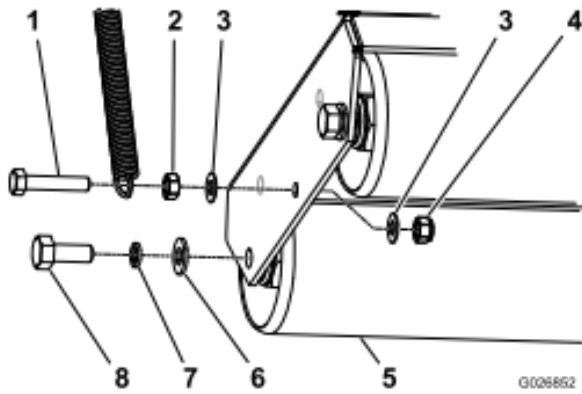

Figure 1
3. Remove the roller cylinders from the steering heads (Figure 1).
4. Install the roller cylinders into the steering heads; refer to Figure 1.